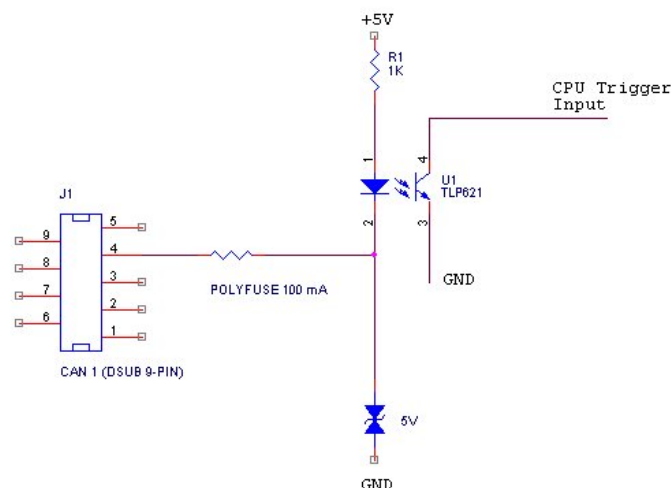

Figure 6: The trigger input inside the Kvaser Memorator Professional.
- Connect a switch from pin 4 on CAN channel 1 to ground, which can be found on pin 3 on the same connector. See Figure 6.